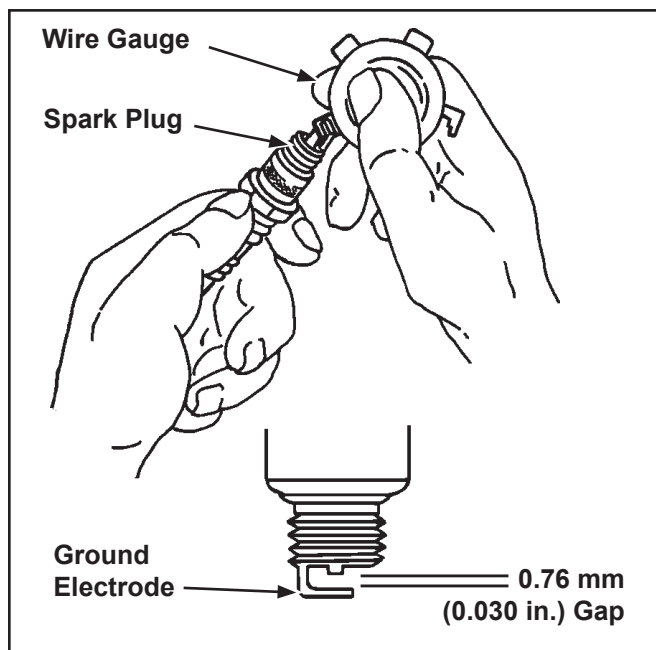

Figure 17. Servicing Spark Plug.
3. Check the gap using a wire feeler gauge. Adjust the gap to **0.76 mm (0.030 in.)** by carefully bending the ground electrode. See Figure 17.